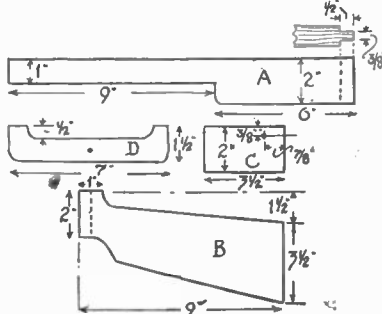

Fig. 1
The main parts of the gun are grouped together under Fig. 1. The stock of the gun consists of two parts, (A) and (B), joined together by side wooden plates, and leaving a gap between for the trigger to work in. This arrangement is more simple than driving a mortise through the stock for the same purpose. Cut (A) and (B) to the shapes shown from $\frac{1}{4}$ in. thick board, deal, if nothing stronger is available.